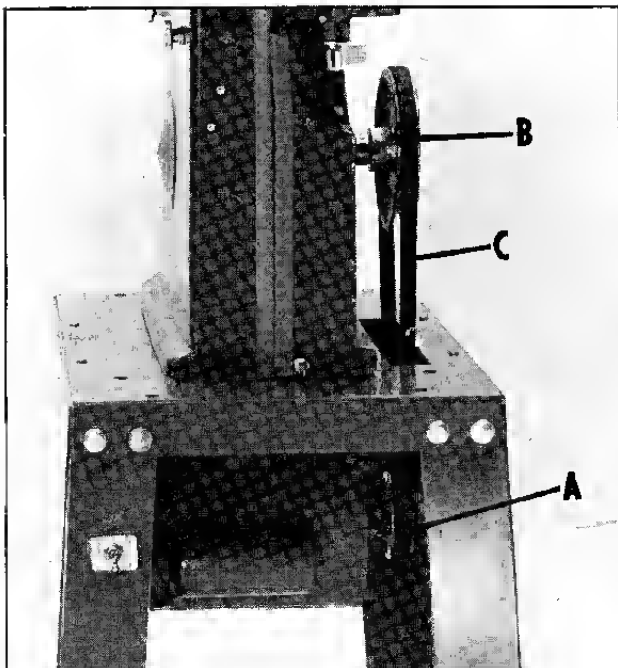

Fig. 12
1. Assemble the motor pulley (A) Fig. 12, to the motor shaft with the hub of the pulley in the out position. Using a straight edge, align the motor (A) to the driven pulley (B) and tighten set screw in the motor pulley against the key in the motor shaft.
2. Assemble V-Belt (C) to the motor pulley and driven pulley, as shown in Fig. 12.